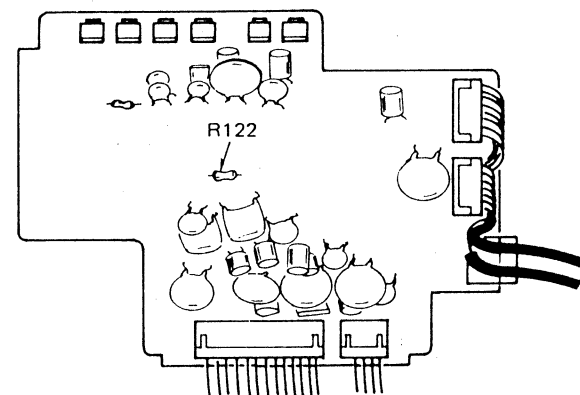

Fig 4-8. Top view of 03 P.C.B. (Head Amp.)
1. Disable focus search by opening R122 (180k) on 03 P.C.B. as shown in figure 4-8.